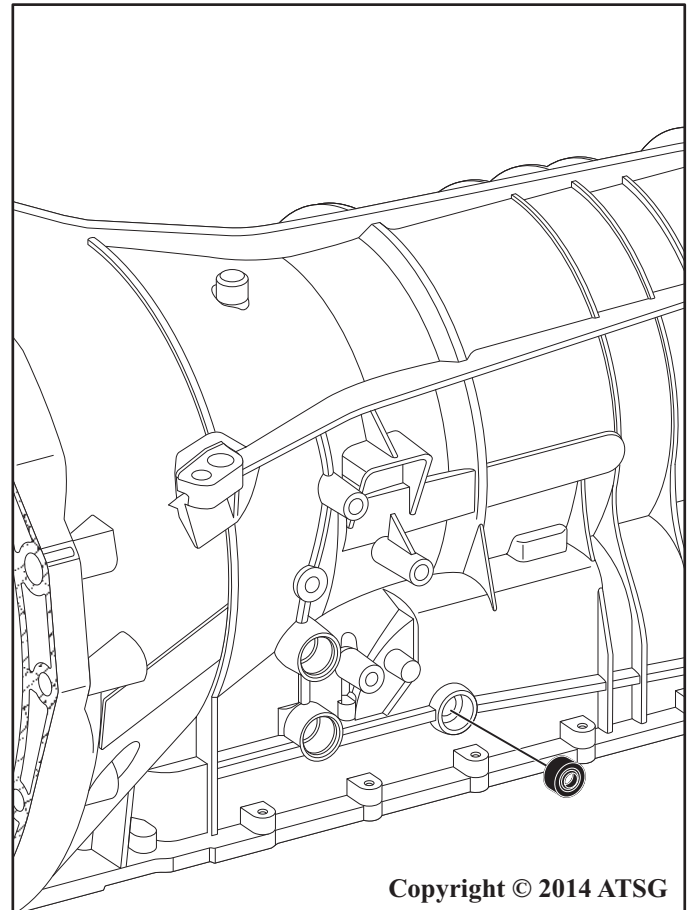

Figure 149
43.Install a new manual control lever shaft seal as shown in Figure 149.